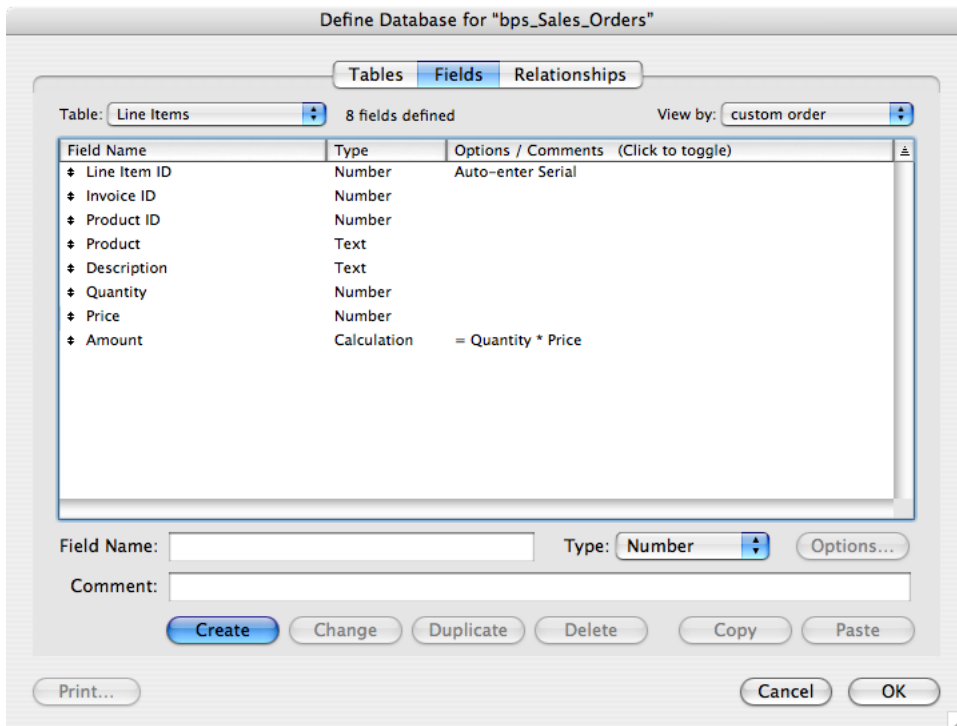

Figure 9: Fields in the new Line Items table
6. Create the fields shown in Figure 9. Be sure to make Line Item ID a serial number by creating the field, then selection Options, and checking the box for "Serial number." The Amount field is a calculation. When you create that field, you will have the opportunity to choose the Quantity and Price fields from a list of all fields, and the opportunity to add an asterisk (which means to multiply in the FileMaker dialog) between the two.